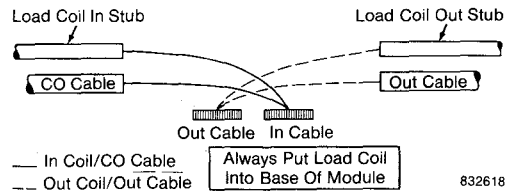

**Fig. 123—Mount splice heads.**
- a. Use two long traverse bars, each with one splice head attached. See Figure 123.